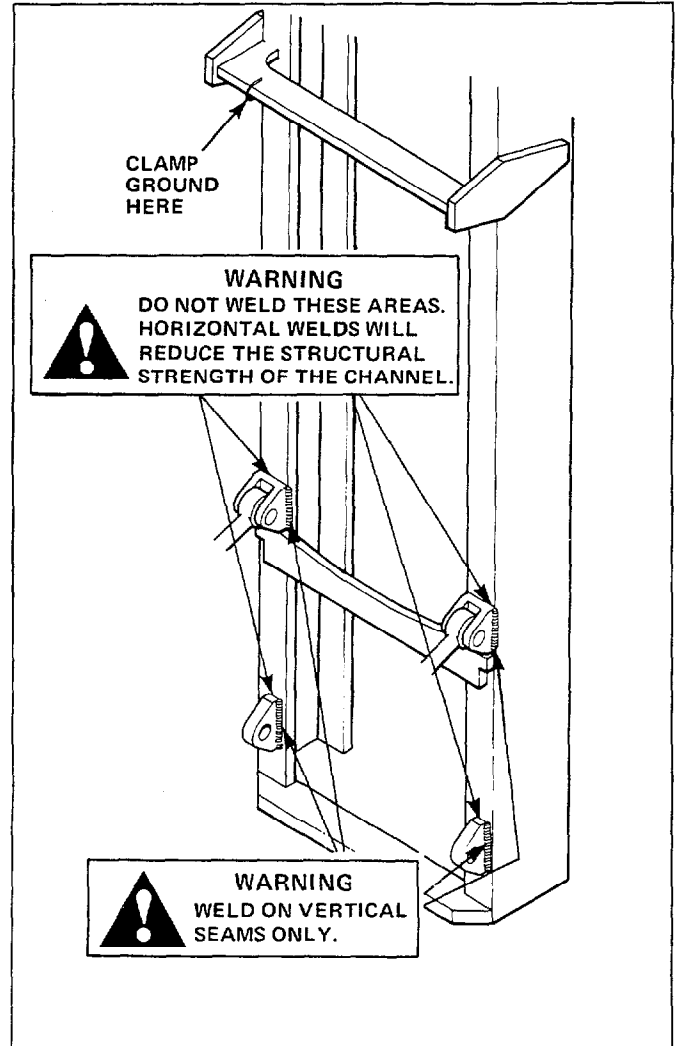

Figure 2. Clamp Ground and Weld.
- g. Weld areas that will be vertical seams when the mast is standing upright only. DO NOT WELD ANY HORIZONTAL SEAMS. See Figure 2.